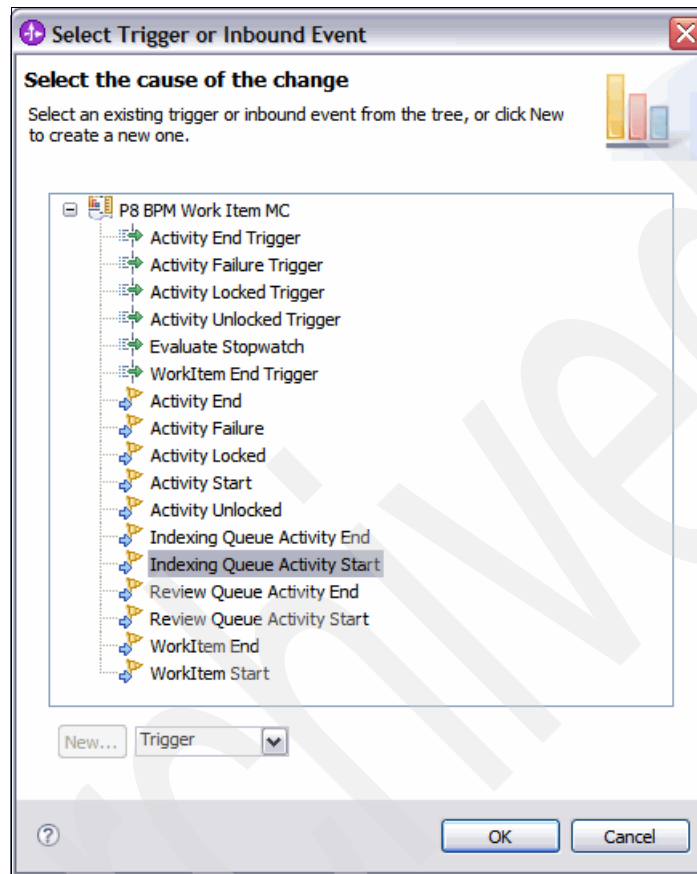

Figure 7-90 Select Trigger or Inbound Event window
4. In the Select Trigger or Inbound Event window (Figure 7-90), select the **Indexing Queue Activity Start** inbound event and click **OK**.